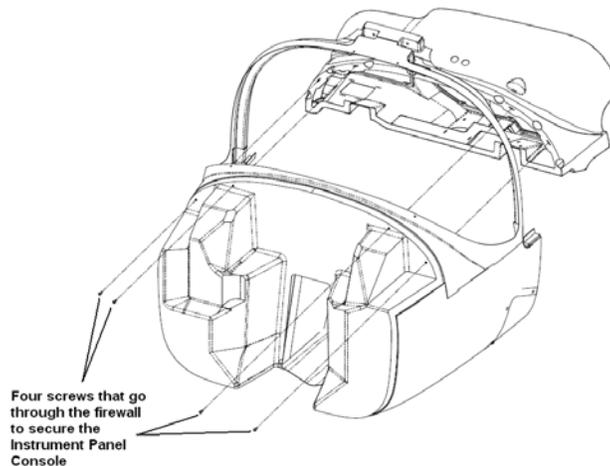

Figure 53-17 Location of the Four Screws the Secure the Instrument Panel Console to the Firewall of the Airplane
5. From the engine compartment, install the four screws that secure the instrument panel console assembly. See Figure 53-17 for the location of the four screws.